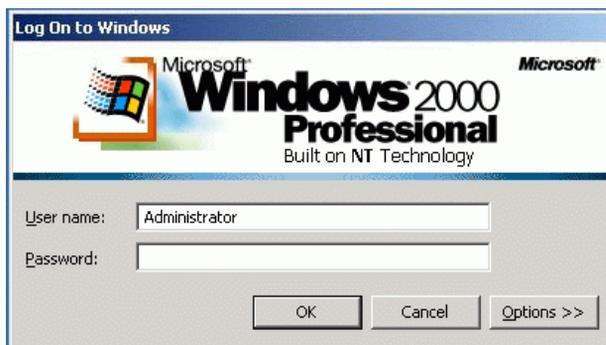

Figure 12 Log On to Windows Dialog Box
2. Simultaneously click the **Send Ctrl-Alt-Del** buttons to log on to the server desktop. The *Log On to Windows* dialog box displays (Figure 12).